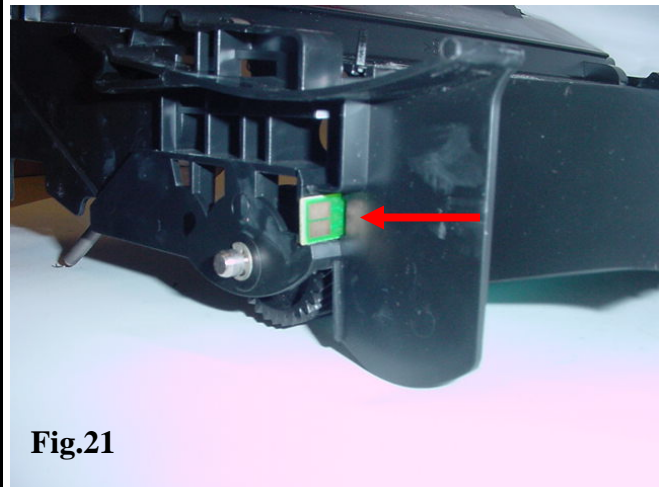

Fig.21
21. Remove the OEM chip using needle nose pliers and replace with a new one(Fig.21)
22. Install the shipping lock. The shipping lock will prevent contact between the OPC and toner hopper once the tabs are locked in place (Fig.21).